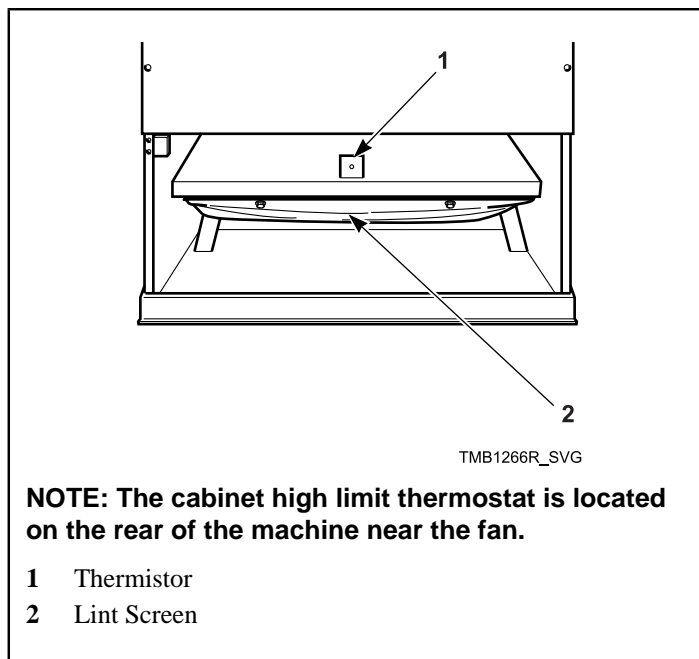

Figure 46
- e. Wipe lint off of the cabinet high limit thermostat and thermistor. Refer to *Figure 46* .